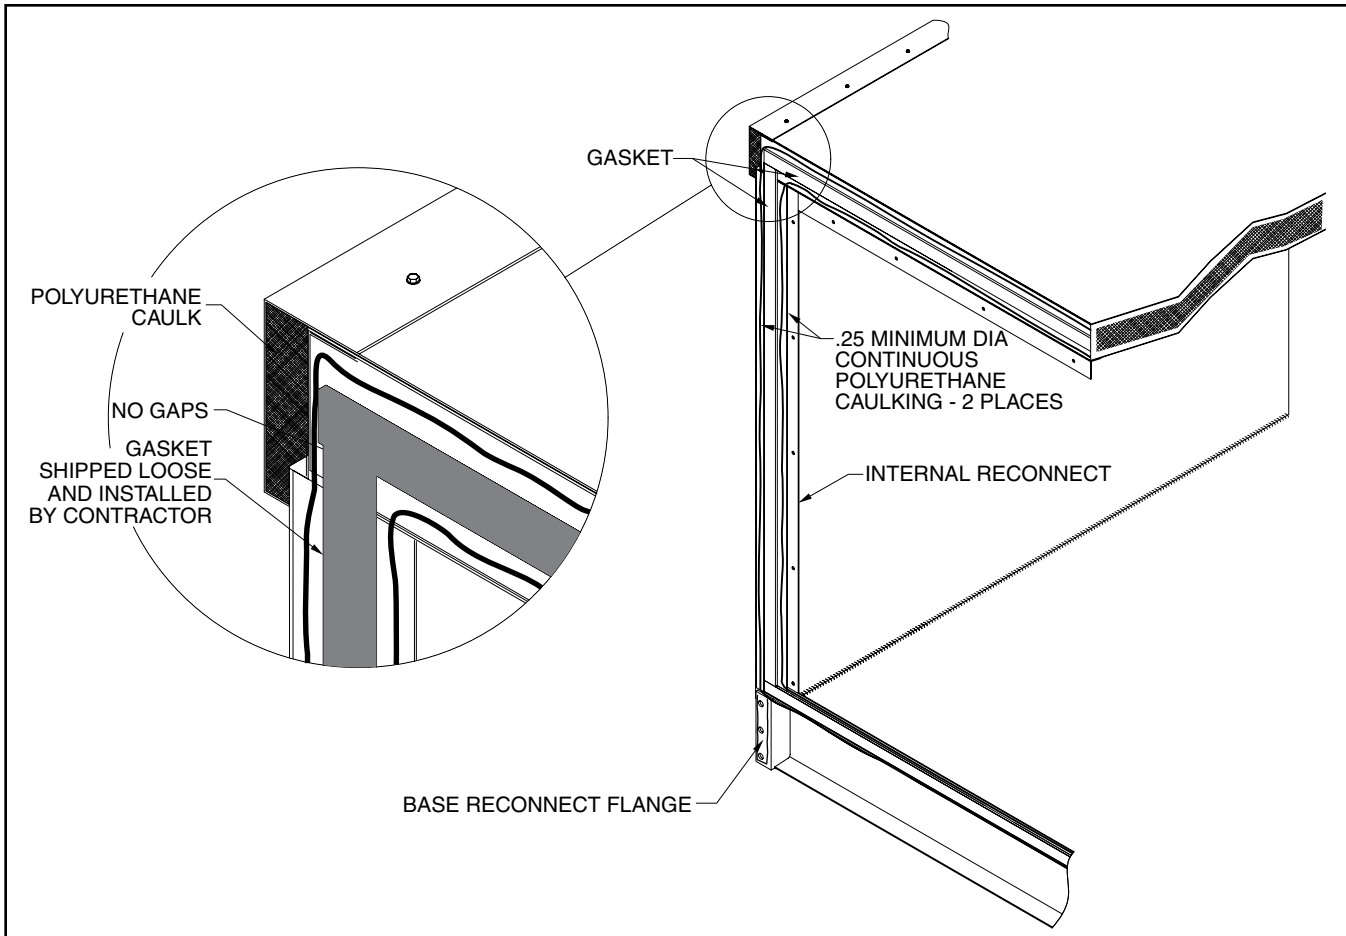

Figure 11 - Multi-Section Gasket Installation On AcuAir Performance Series Units
2. Install the foam gasket on one of the mating surfaces of one of the sections to be reconnected as indicated in Figure 11. Gasket material to be shipped loose.